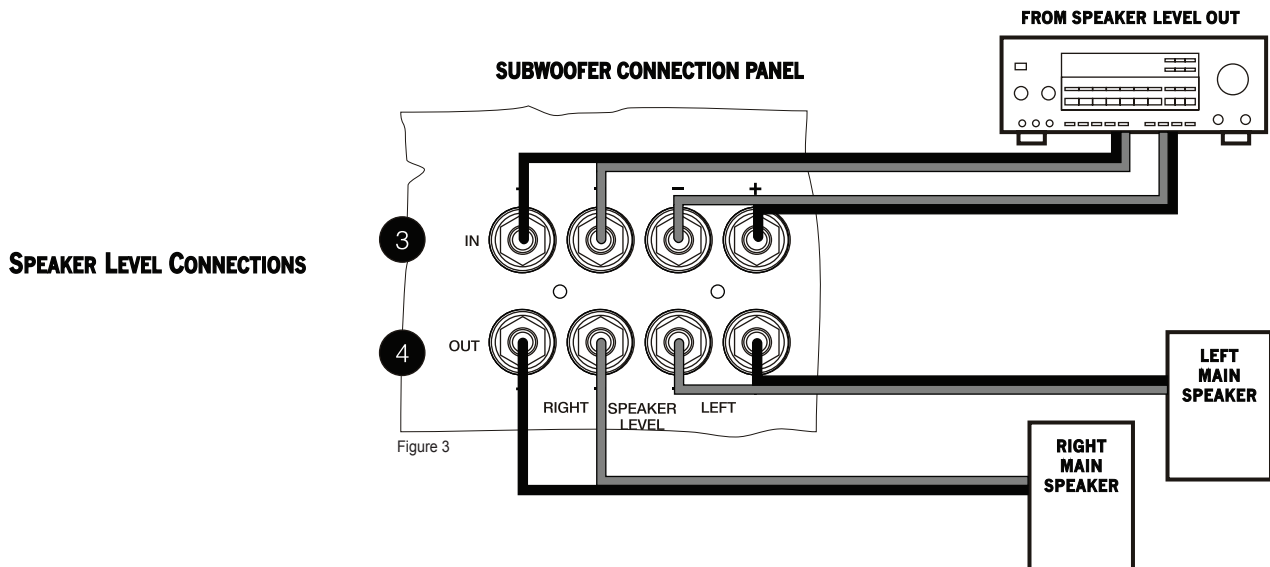

Figure 3
Connect the left and right speaker-level outputs of an A/V receiver to the Left and Right Speaker-Level Inputs (3) of the XLS subwoofer. Then connect the Left and Right Speaker Level Outputs (4) of the XLS subwoofer to the left and right speakers on your system. Remember to maintain left to left, right to right, (+) to (+) and (-) to (-) connections. (Figure 3).